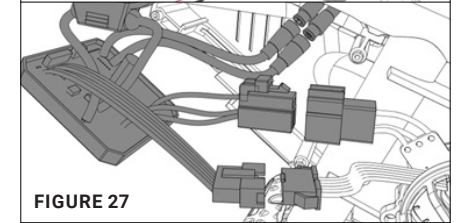

FIGURE 27
- Insert new control board and reconnect. [Figure 27]